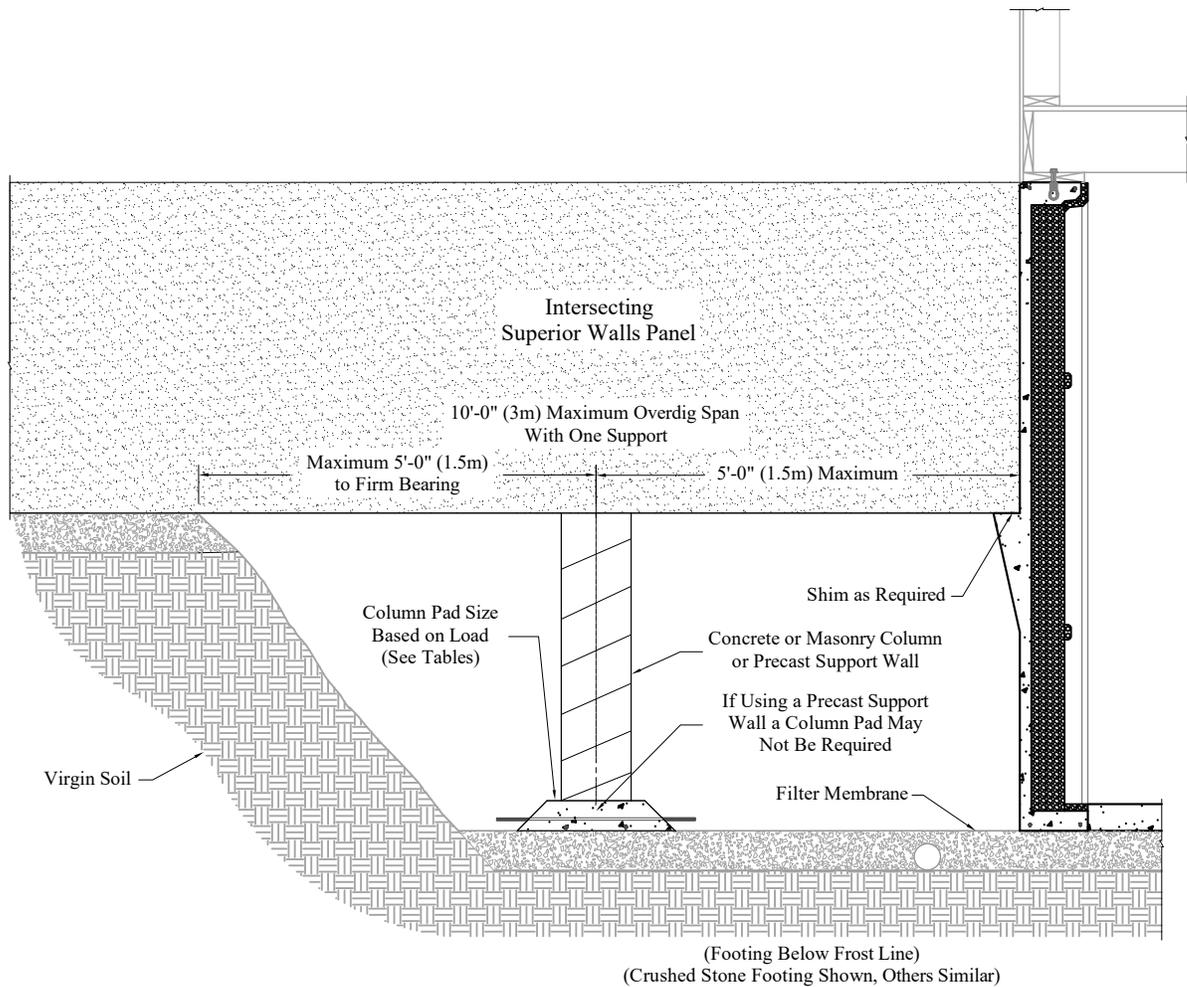

Figure 8
- When an overdig is more than 5'-0" (1.5 m), an intermediate support column / wall is required unless project-specific engineering is provided. (See Figure 8.)